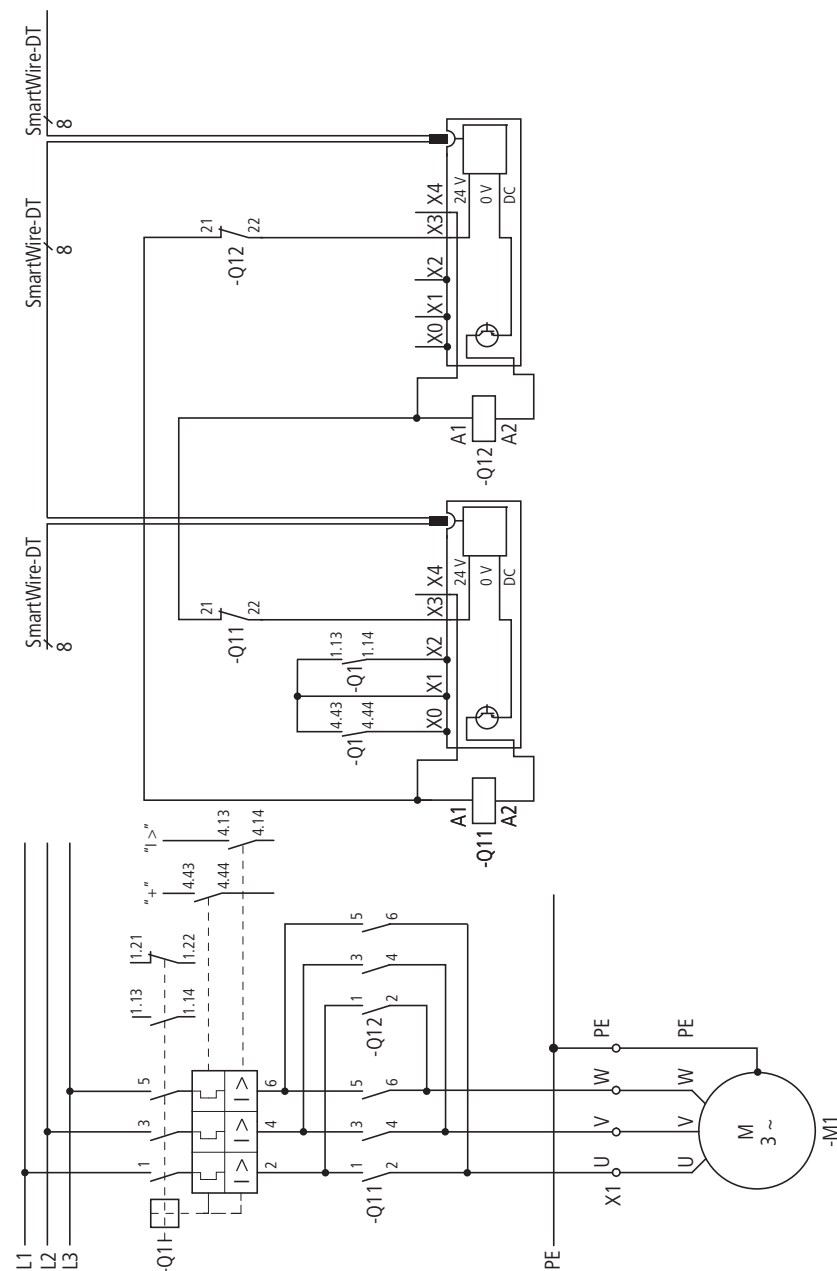
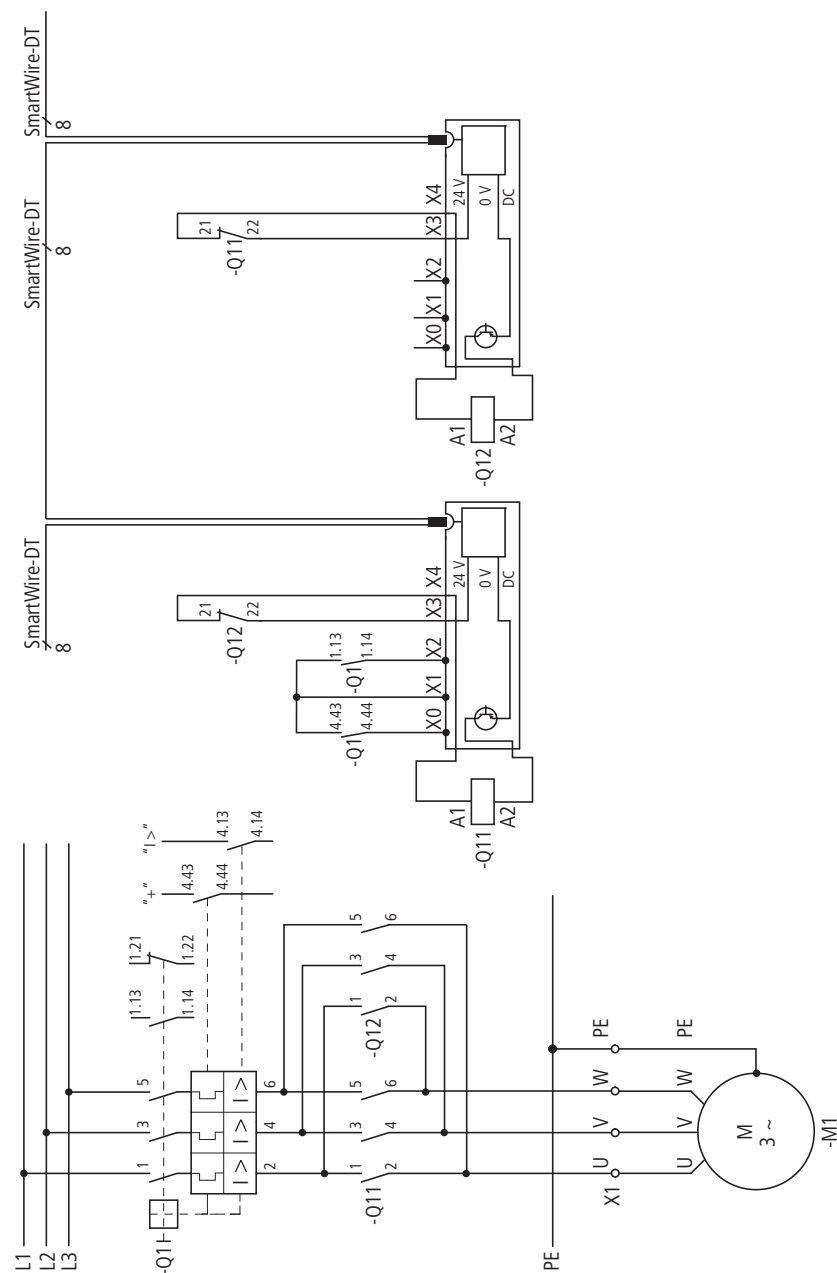

Figure 27: Circuit diagram of the reversing starter in combination with DILM12-XEV
Figure 28: Circuit diagram of the reversing starter
The "Enable" ⑧ auxiliary contact is factory fitted with a link, → Figure 28. For the electrical interlocking of the two contactors this link is removed and the auxiliary breaker (contacts 21-22) of the other contactor is linked in as a potential-free contact.
In combination with the jumpers DILM12-XEV the circuit Fig. 27 should be used. On the other hand, an electrical interlock with wire jumpers should be implemented according to the circuit Fig. 28.
Besides the special features described in the foregoing subsection "Direct starters", it must be taken into account that reversing starters in the North American market must be equipped in addition with a mechanical and electrical locking device. The electrical locking is realized via the connection auxiliary contact "Enable" → Figure 28, ⑧.